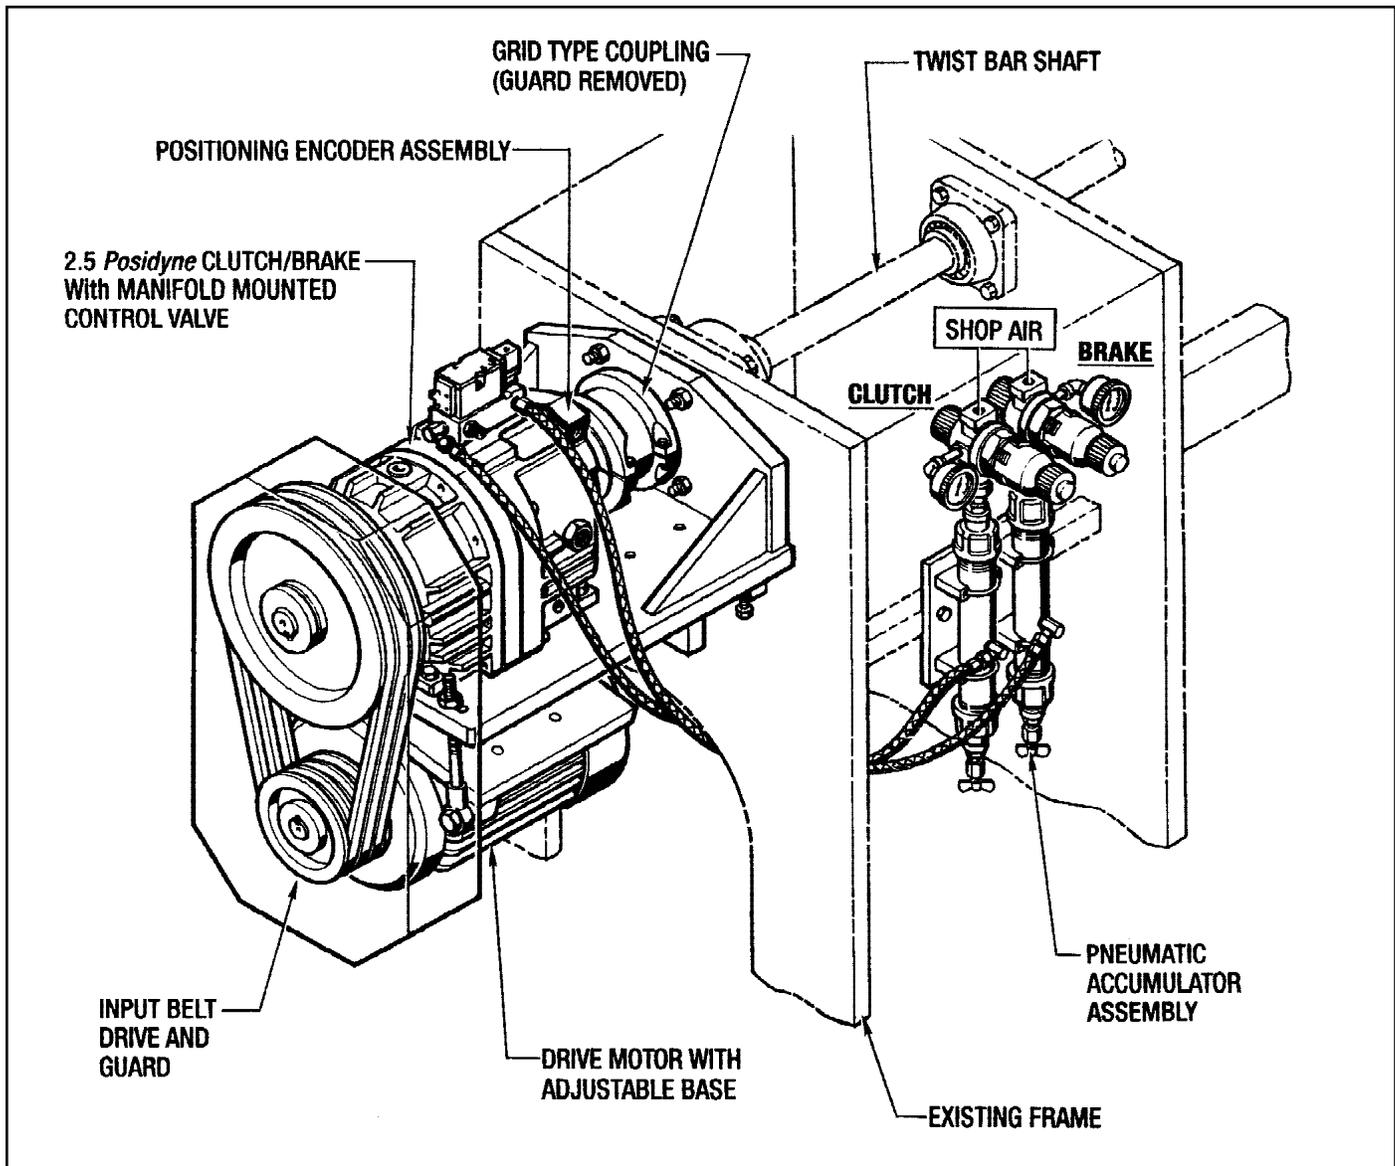

Figure 1.2 - Air Actuated *PosiWeave* Drive Package
(See Figure 1.2)
2. Connect shop air to each of the regulators on the accumulators as shown in Figure 1.2.